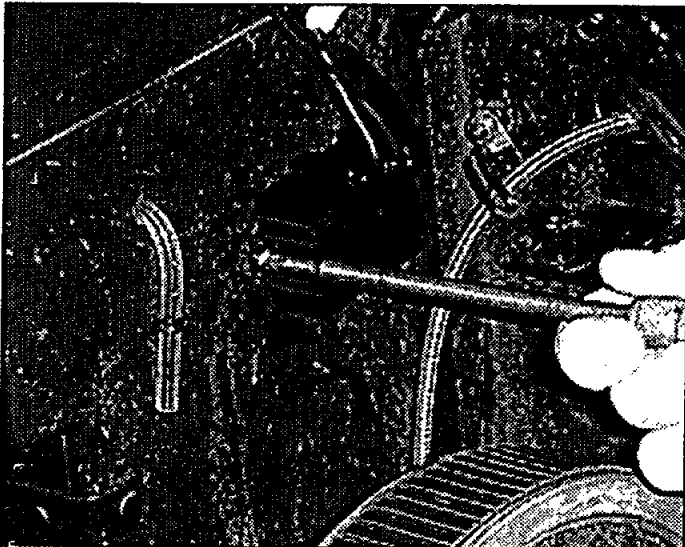

Figure 1
**Step 2.** Mounting the battery. The lithium battery pack will give you excellent cold weather battery performance and will run about 60 hours without needing replacement. The battery also has a shelf life of 10 years. Most mountings of the lithium battery pack will be on the side of the air box. The four connectors on the battery pack allow for easy removal of the air box and battery pack together. Find an area allowing ample clearance for mounting the battery pack. Mount the battery utilizing the provided two short self-tapping, pointed screws. (See Fig. 1) **NOTE: DO NOT OVER TIGHTEN SCREWS.** Snug screws will hold the battery pack securely. **NOTE: The connectors on the battery pack are easily pulled apart for routing of the components and replacing the battery pack. ALWAYS PULL THE CONNECTORS APART AT THE WHITE PLASTIC CONNECTIONS THEMSELVES. NEVER PULL THE CONNECTORS APART BY PULLING ON THE WIRING.**